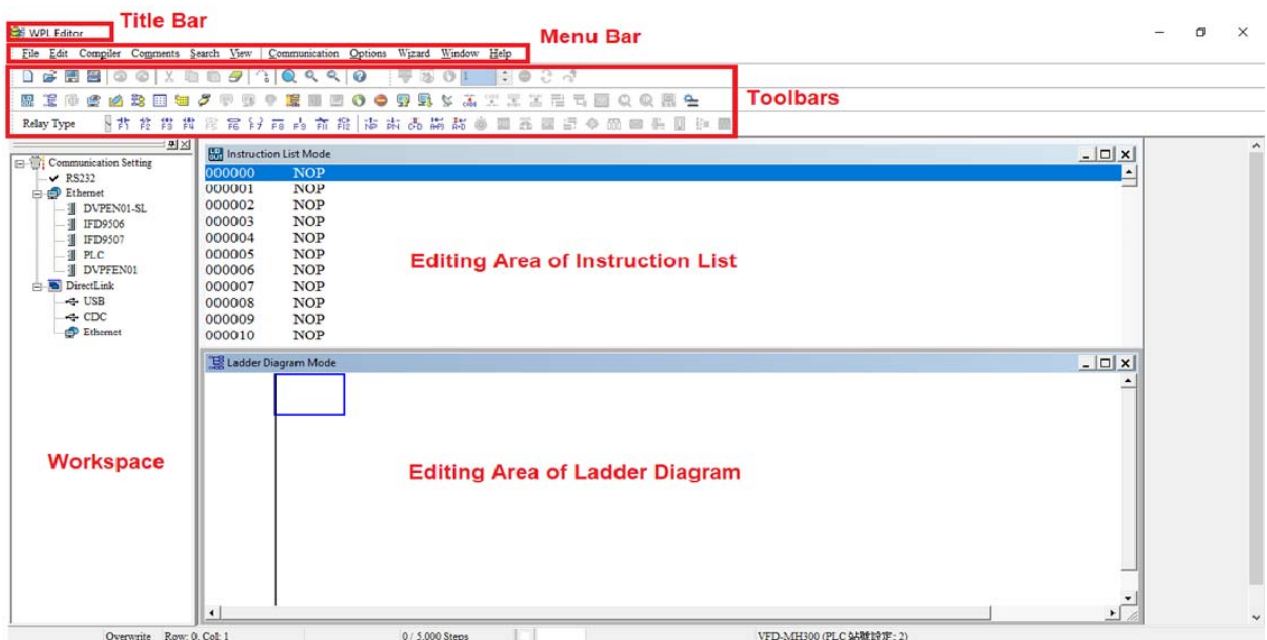

Figure 16-3
**NOTE** After running WPLSoft for the second time, the last file edited will open and be displayed in the editing window. The following figure 16-3 provides an explanation of the WPLSoft editing software window: